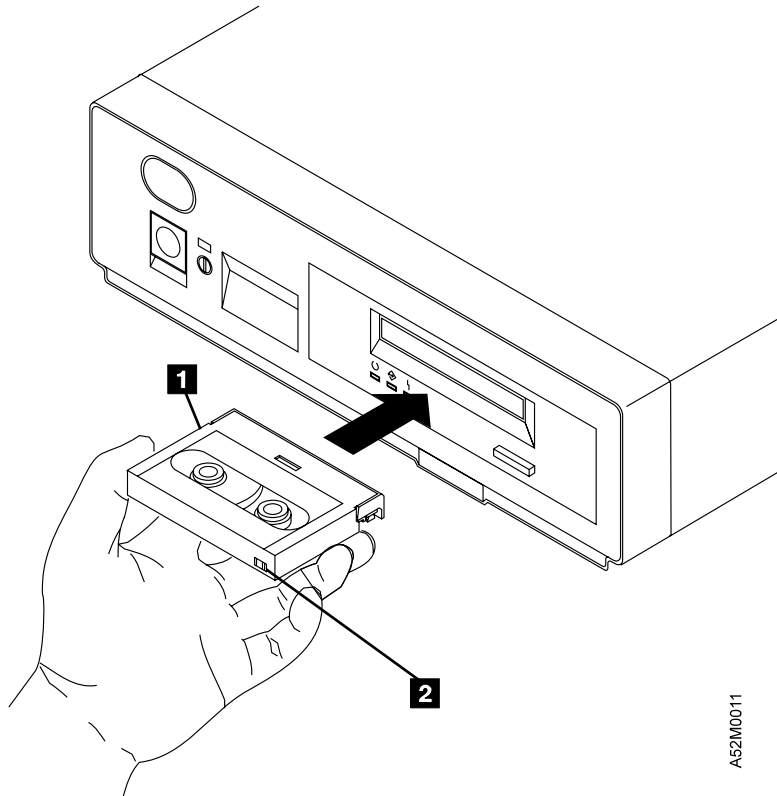

Figure 12. Loading a Tape Cartridge
2. Grasp the cartridge ( **1** in Figure 12) by the outer edges, with the window side up and the write-protect switch **2** facing you.
2. Grasp the cartridge by the outer edges, with the window side up and the write-protect switch facing you (see Figure 12 on page 14).